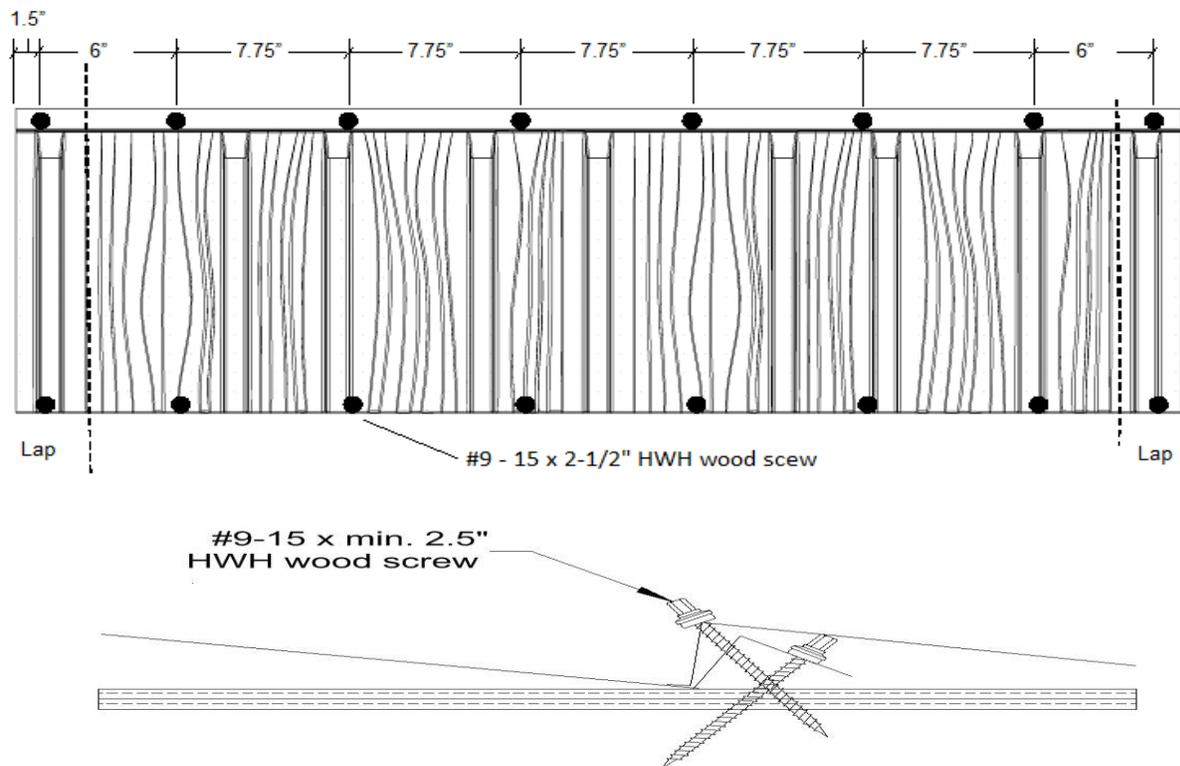

Figure 9: Terrabella Shake® To Wood Deck
**Panel Attachment:** The panels are secured to the roof deck with eight #9-15 x 2-1/2" HWH wood screws secured along the back flange and eight #9-15 x 2-1/2" HWH wood screws secured through the nose of the panel at the panel overlap. One screw is placed at each panel side lap approximately 1.5" from the panel edge. An additional screw is placed approximately 6" from each of the screws in the panel side lap. The remaining four screws are placed approximately 7.75" o.c. Refer to Figure 9 for attachment details.